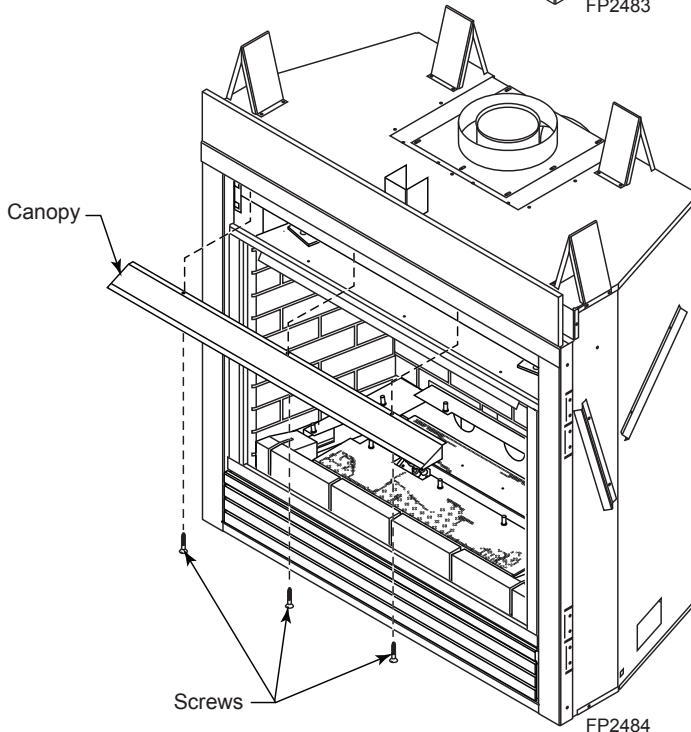

Figure 56 - Install Canopy
2. Attach canopy to underside of top outer shell with three (3) screws provided. *Figure 56*